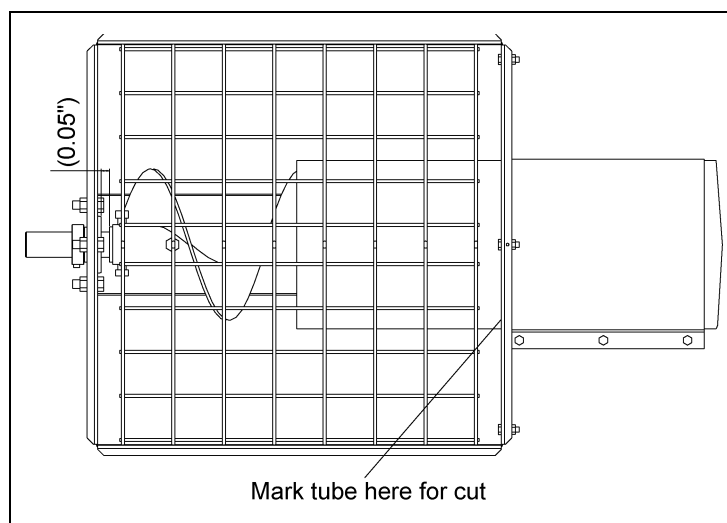

Figure 4C
- A. With the bearing attached, slide the hopper onto the tube and align the end surface of the flight approximately 1/2" from the surface of the bearing. When the proper distance is achieved, mark the tube for the cut. (See Figure 4C.)